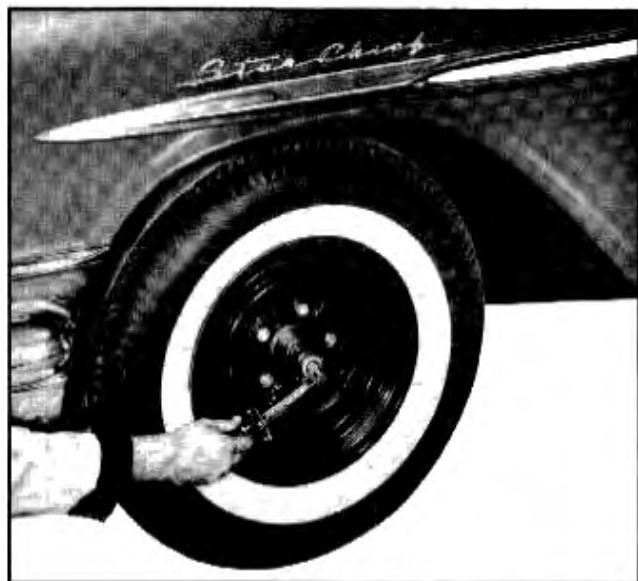

Fig. 3-11 Adjusting Wheel Bearing Using Torque Wrench
b. Back off nut and retighten to 45-50 lb. in. (Fig. 3-11).